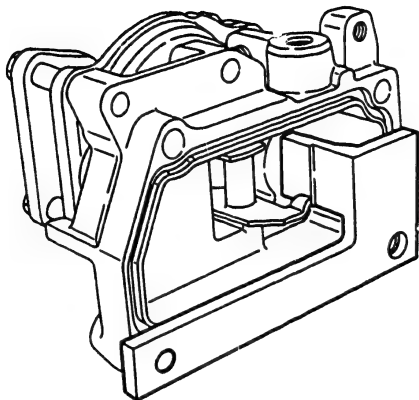

Fig. 130 Attaching the block gauge
- 3 Securely attach the block gauge (KDEP 1152) to the governor cover as shown in Fig. 130.